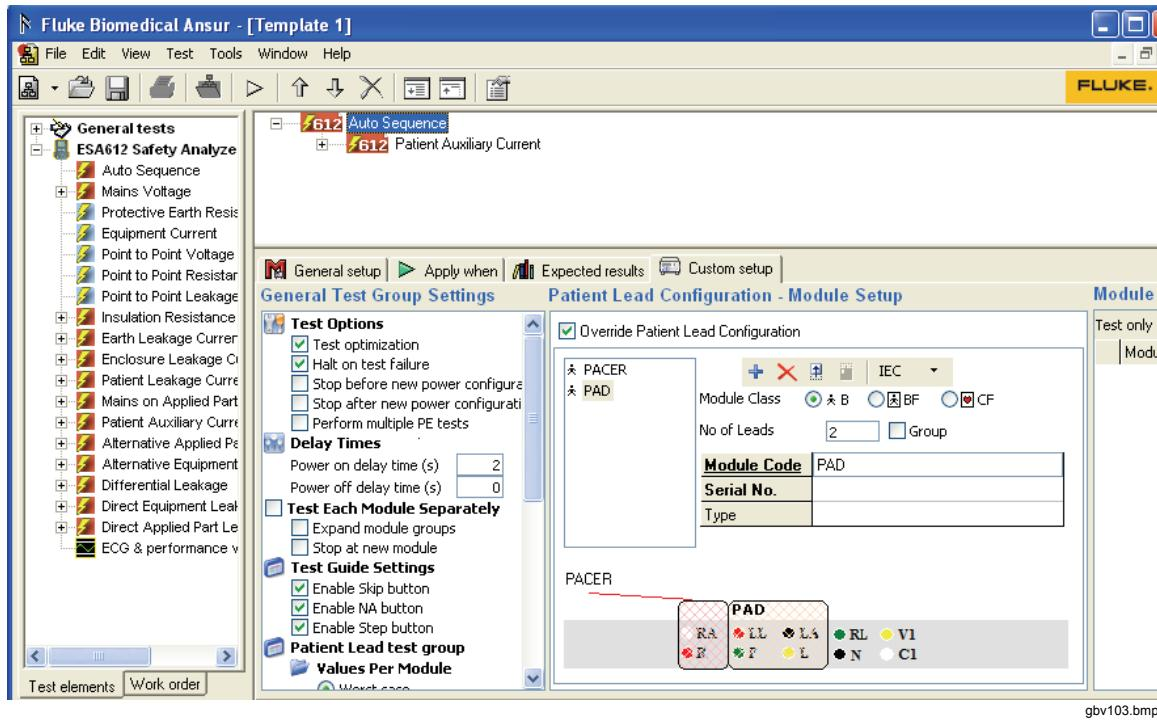

Figure 4-8. Patient Auxiliary Current Setup
2. Select the Auto Sequence in the template window and click **Custom setup** to display the custom setup for element as shown in Figure 4-8.